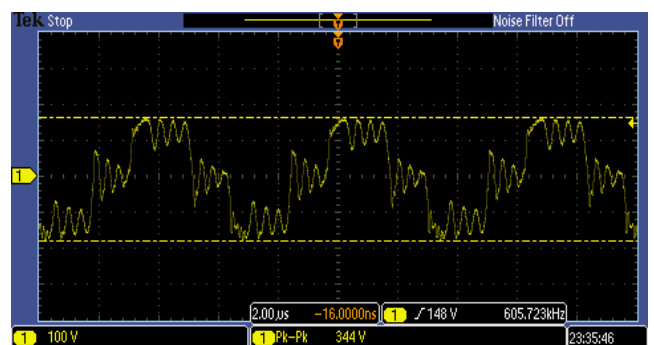

Figure 2. Transformer voltage with oscillations
- Oscillations: The Llk resonates with the secondary side diode capacitance and its own transformer capacitance, this resonance can breakdown the diodes and provoke spikes if it is not limited. This problem can be solved modifying the resonant or including a snubber. The Figure 2 has been obtained using a non dissipative snubber for limiting the peaks.